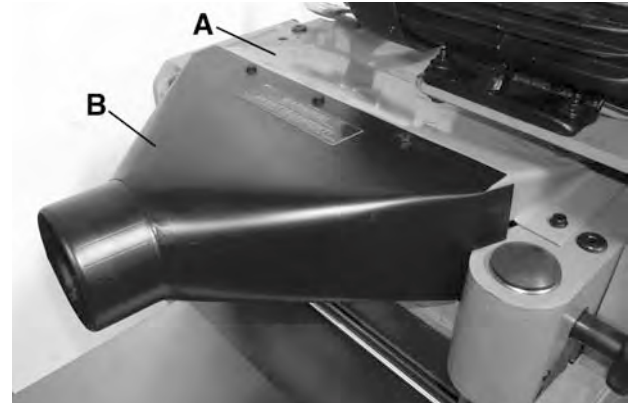

FIGURE 15
2. Remove the top cover (A) Fig.15 and the 4" dust chute (B).